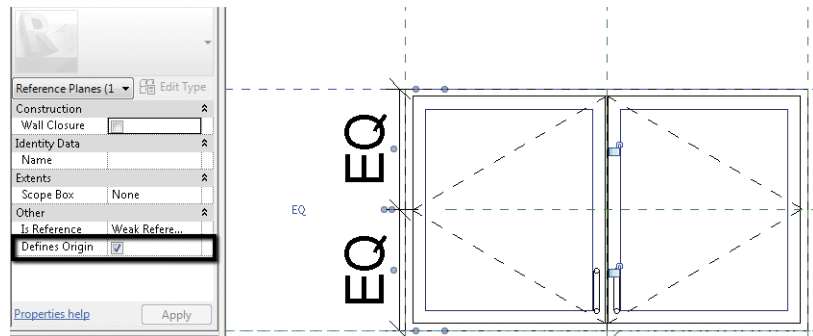

FIGURE 6.17 Reference Planes Defines Origin parameter
8. Open the Placement Side elevation view, and select the reference plane at the top of the cabinets. Select the check box for the Defines Origin parameter in the Properties palette as you did for the reference planes earlier (Figure 6.17). Note that the reference plane elevation is 6'-0" (2000 mm) above the floor line.